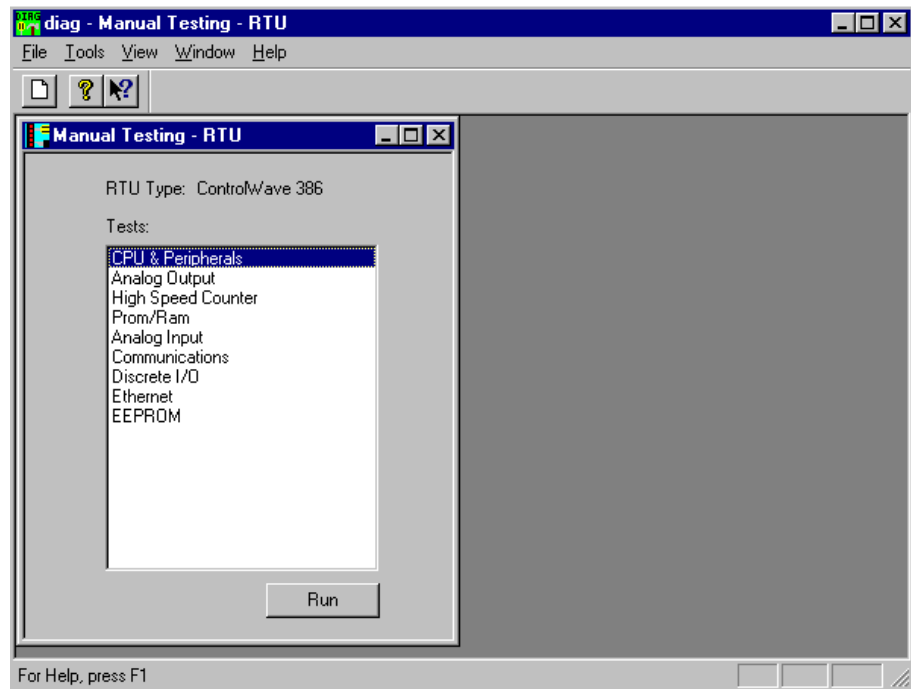

Figure 5-21. WINDIAG Main Diagnostics Menu
- Select **Start >Programs > OpenBSI Tools >Common Tools >Diagnostics**. The Main Diagnostics menu (*Figure 5-21*) displays.
Using WINDIAG, you can test all ControlWave modules with the exception of the PSSM. WINDIAG's Main Diagnostics Menu (see Figure 5-21) provides the following diagnostic selections: